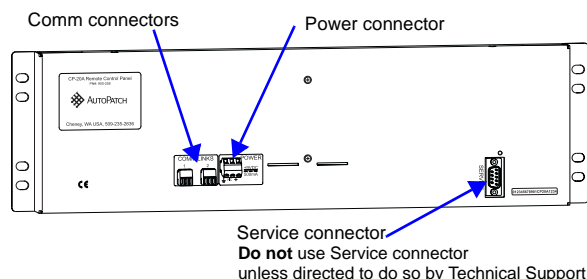

FIG. 1 CP-20A rear view
1. Unplug one of the Comm Link connectors (see FIG. 1)